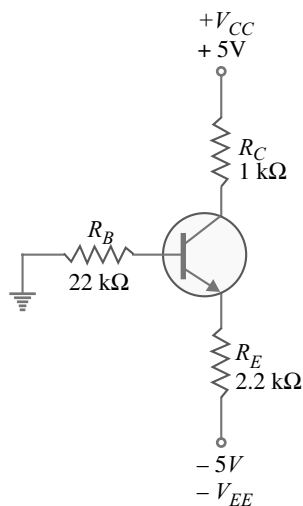

Fig. 7.65
13. To what value can  $R_E$  in Fig. 7.65 be reduced without transistor going into saturation?